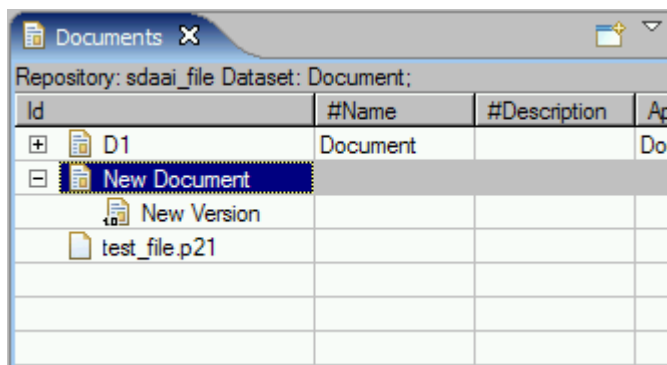

Figure 2. New document with version
- The new document appears as the root node in the tree with a new version node (see Figure 2).